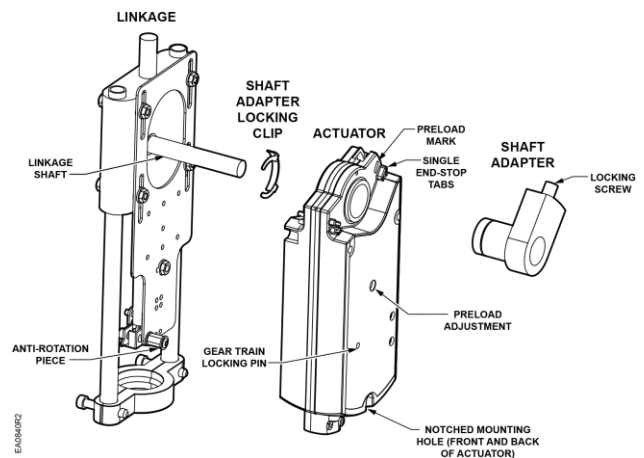

Figure 8. Mounting Actuator on Linkage for Reverse-Acting Control Application.
Reverse-Acting Control Applications (Figure 8)
2. With the shaft adapter locking screw loose, insert the 3 mm hex key in the preload adjustment (Figure 8).